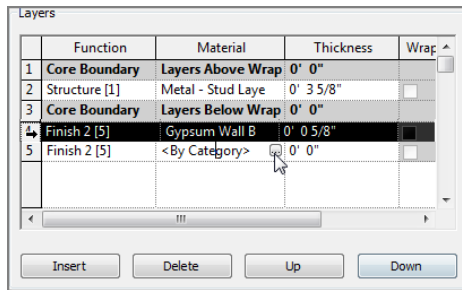

FIGURE 9.16: Clicking the button in the Material cell
- 7. In the **Layers** field, as shown in Figure 9.16, click row 4. This is the **Finish 2 [5] Gypsum Wall Board** row. The entire row should be highlighted in black when you have it selected properly.
11. Click in the Material cell, and click the [...] button (see Figure 9.16).